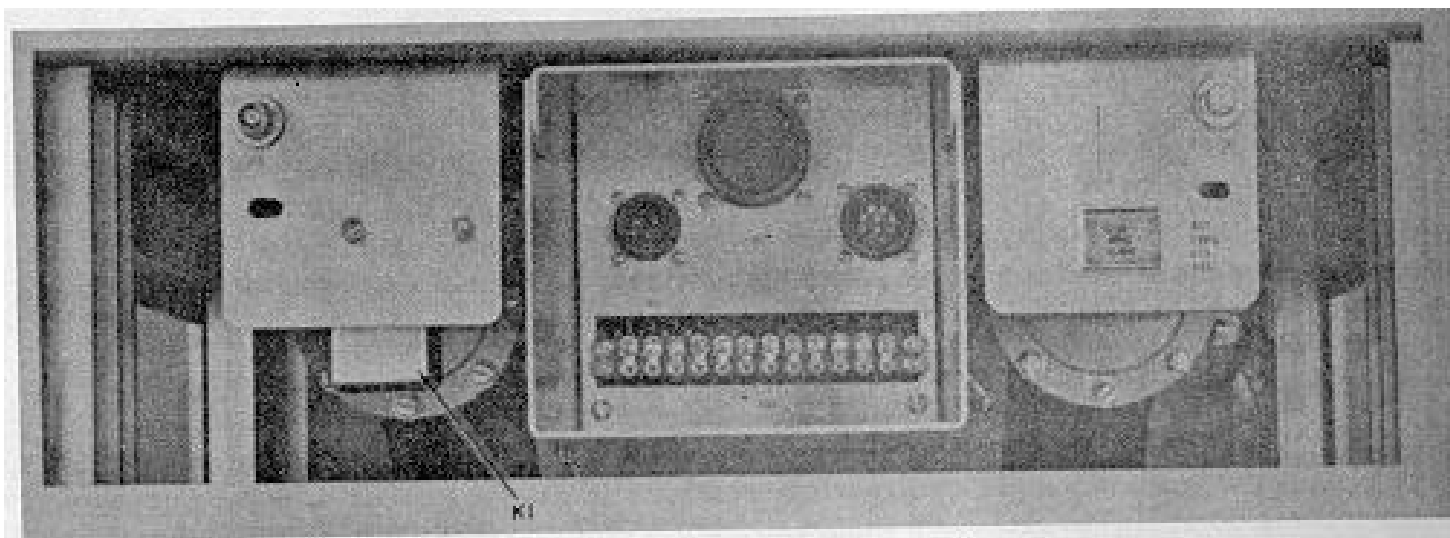

Figure 2-1. Tropospheric Scatter Receiver Cabinet Distribution Box
- a. Cable W40 to AC POWER jack J1, in the distribution box behind the Distribution Panel. (See figures 2-1 and 2-2.)